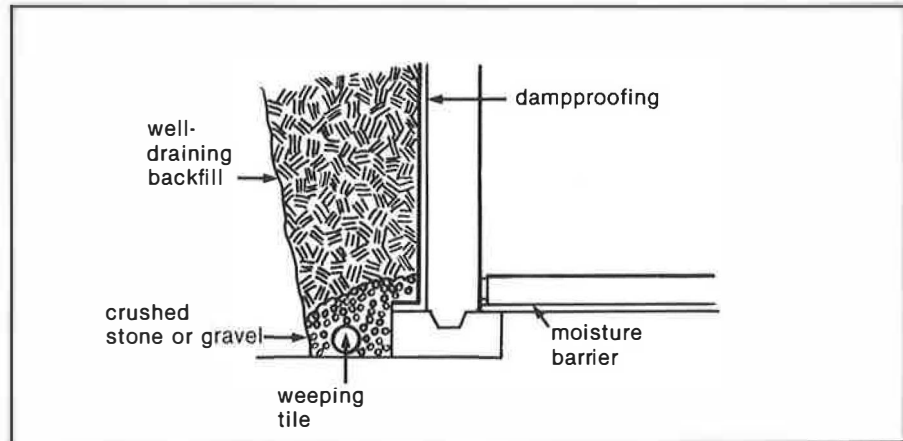
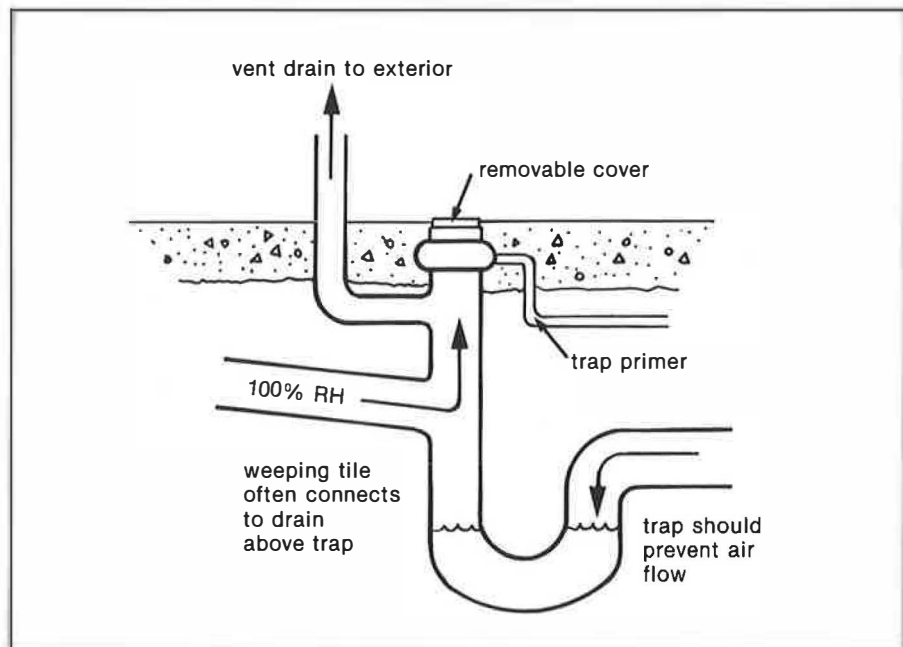

Fig. 11. Perimeter drainage.
Fig. 12. Floor drain detail.
- Provide proper weeping tile, granular backfill, and dampproofing to keep water away from basement walls and crawl spaces. See fig. 11 (B).
- Seal crawl space from ground and protect the moisture barrier from damage by covering with sand or concrete (B).
- Provide removable covers for floor drains and sump pits. Vent to outdoors. Provide trap primers to prevent the trap from drying out. See fig. 12 (B).
- Don't use the crawl space as a warm air plenum unless it is totally sealed from moisture sources (B).
- Finished basements, complete with insulation and continuous vapour barriers, may decrease the release of moisture into the air (O).